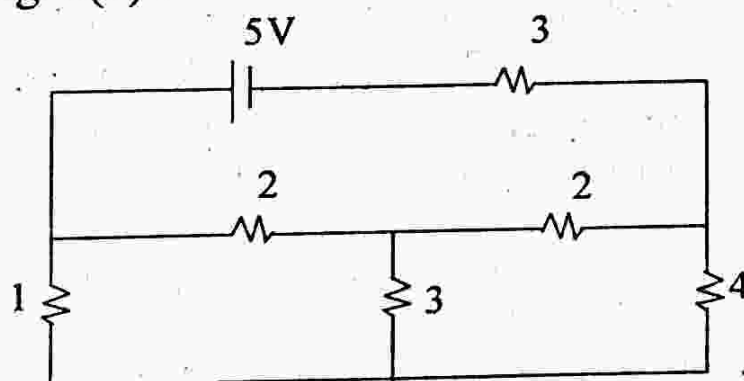

Fig. 1(b)
- (b) Determine the circuit current drawn from 5 V battery by 'STAR-DELTA' transformation as shown in 'Fig. 1(b)'. 6